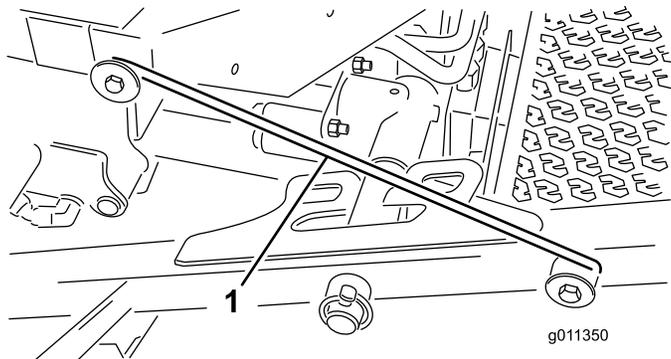

Figure 32
4. Release the latch rod (Figure 32) from the front carrier frame retainer.
5. Lift the outside of the front cutting units and place the latch over the frame pin mounted on the front of the operator's platform (Figure 32).